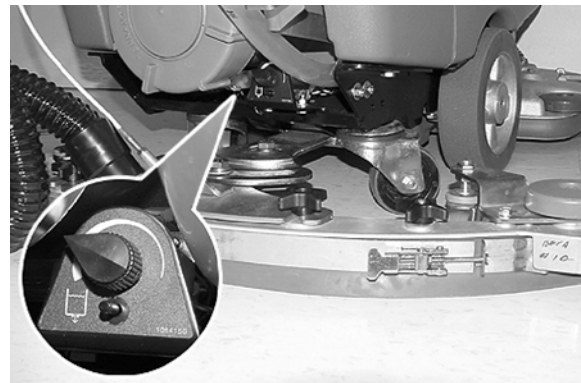

FIG. 19
8. For conventional scrubbing, turn the solution flow control knob to a desired flow rate (Figure 19).